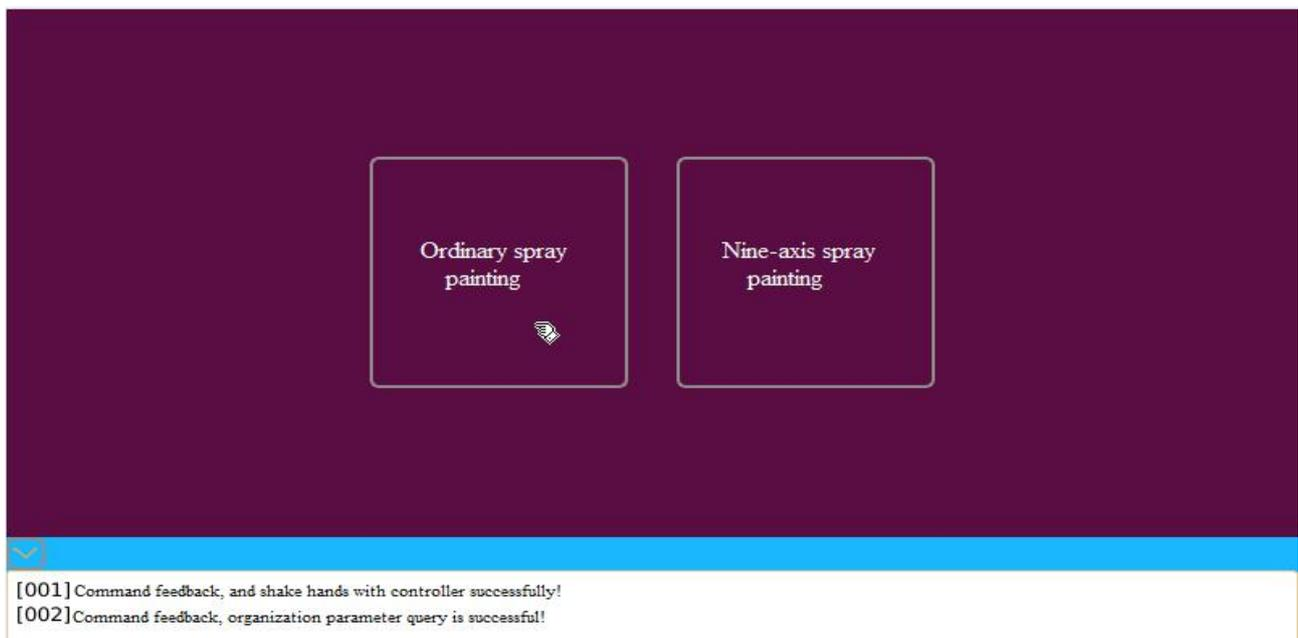
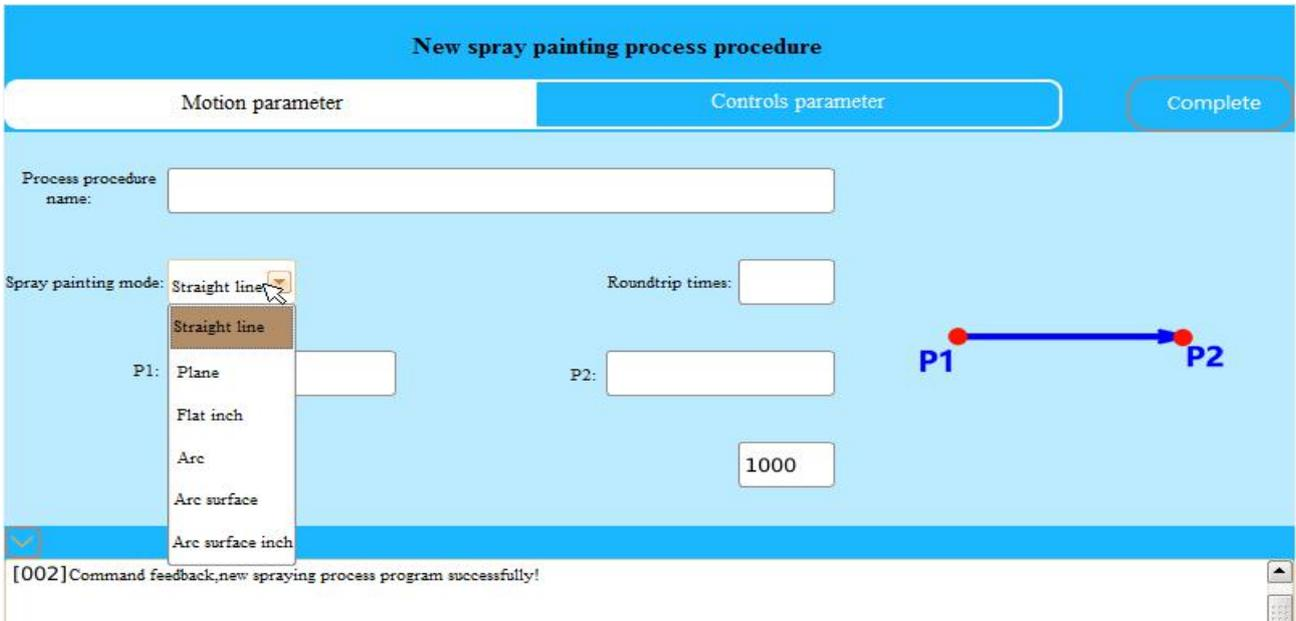

Figure 4.15 “process package” Create Interface
Fig. 4.16 “Common spray painting process” Creation Interface
In order to facilitate r use of the control system by the user, for some work with fixed operational processes and particularly cumbersome, the “process pack” can be formed by “setting”, so that the user can easily finish the complicated and cumbersome work. Click [Motion] _[Procedure Control]_[Process Package] to enter the “process package” creation interface, as shown in Figure 4.15. At present, there are two processes of “common spray painting process” and “nine-axis spray painting process” for the process of the system.
As shown in Fig. 4.15, click [ordinary spray painting] key to enter the creation interface of common spray painting process. As shown in Figure 4.16, the “motion parameter” and “control parameters” need to be set for the creation of common spray painting process.
A. Motion parameters: As shown in Figure 4.16, the motion parameters will vary depending on the “Spraying
(1) “Common straight-line spray painting mode” motion parameters: As shown in Figure 4.16, the “process procedure name” is to create a process name; “Spraying mode” is a “straight line”; The “roundtrips” is repeated, and if it is set to “0”, the motion is not repeated; The “P1” and the “P2” are to determine the “Starting Point” and the “Endpoint” of the “linear spray painting pattern”, and move between two points in a “straight line” motion type; The “roundtrip speed” and the “end-to-start speed” can set the speed.